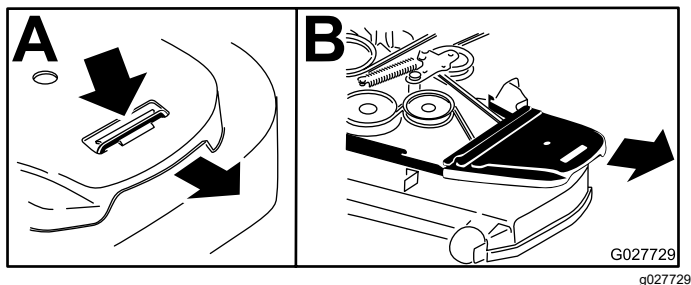

Figure 75
4. Remove the belt covers (Figure 75).